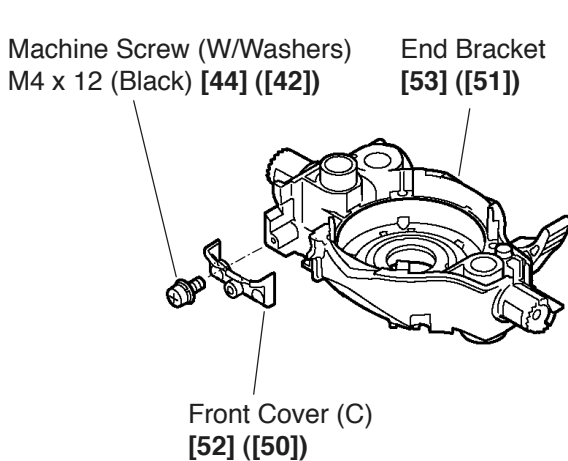
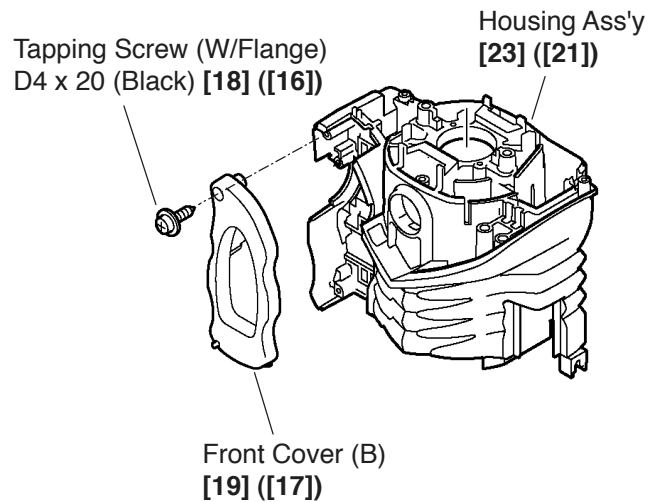

Fig. 4
Fig. 5
(4) Remove Front Cover (B) [19] ([17]) and Front Cover (C) [52] ([50]) (Fig. 4 and Fig. 5)